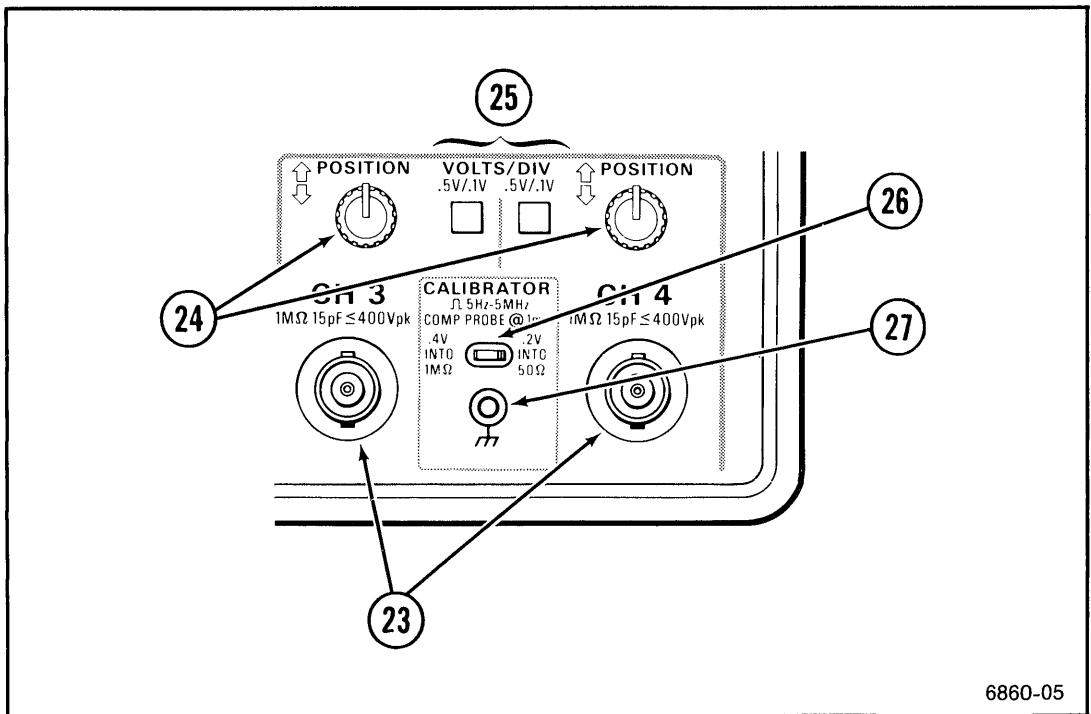

Figure 5-4. CH 3 and CH 4 controls and connectors and CALIBRATOR output.
- Only with the available Television/Video (TV) enhancement, the CH 2 input has a back porch clamp for composite video signals. When the input coupling is AC, pressing the upper button activates the clamp and displays "TVC" in the readout. The clamp locks the back porch feature of the video signal to a constant level and eliminates drift, hum, and tilt, despite changes in signal amplitude and average luminance levels. Pressing the lower button restores AC coupling and turns off the clamp.
- ②② **CH 1 OR X and CH 2** Conduct external signals to the Channel 1 and Channel 2 vertical inputs. A signal applied to the CH 1 OR X connector provides the horizontal deflection for an X-Y display. Each connector includes a coding-ring contact for Tektronix-coded probes.
Refer to Figure 5-4 for the location of items 23 through 27.
- ②③ **CH 3 and CH 4 Input Connectors** Conduct external signals to the Channel 3 and Channel 4 vertical inputs. Each connector includes a coding-ring contact for Tektronix-coded probes. Input coupling from these connectors is DC only. Channel 3 and Channel 4 are most useful as digital-signal and trigger-signal input channels, given their limited choice of deflection factors.
- ②④ **POSITION Controls** Set vertical position of the Channel 3 and Channel 4 signal displays. The controls operate identically to the Channel 2 POSITION control, but with less range on their associated traces.
- ②⑤ **VOLTS/DIV Switches** Toggle between 0.1 V and 0.5 V per division deflection factors for Channel 3 and Channel 4.
- ②⑥ **CALIBRATOR Connector** Provides a 0.4-V p-p square-wave into a 1 M Ω load, 0.2-V p-p into a 50 Ω dc-coupled load, or 8-mA p-p into a short circuit. The signal is useful for checking sweeps, delay-times, and vertical deflection accuracies, as well as compensating voltage probes and checking the accuracy of current probes. The repetition rate of the square wave changes with A-Sweep SEC/DIV changes. From 100 ms per division to 100 ns per division, the A Sweep of the instrument supplying the CALIBRATOR signal displays five cycles per 10 divisions. At 100 ms per division and slower, the CALIBRATOR frequency is 5 Hz; at 100 ns per division and faster, the frequency is 5 MHz. The signal amplitude at 5 MHz is at least 50% of the signal amplitude obtained when the sweep speed is set to 1 ms per division.